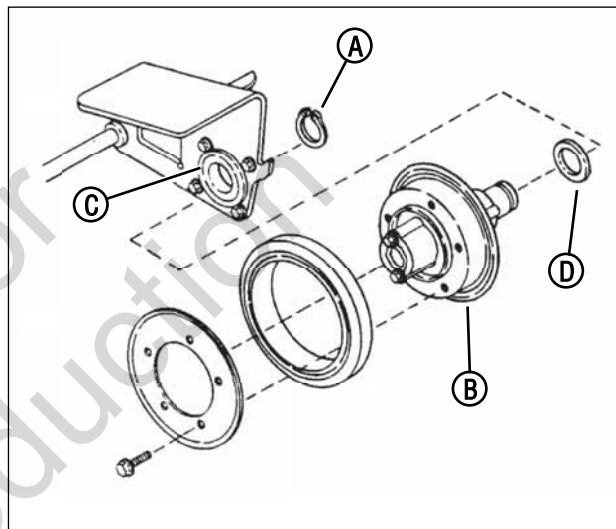

Figure 31: Replacing the driven disc bearing
- Remove the snap ring (A, Figure 31) that secures the driven disc hub (B) to the thrust plate.
- Slide the driven disc hub out of the bearing (C).
*NOTE: Be sure to replace the shim washer (D) when reassembling the driven disc assembly.*